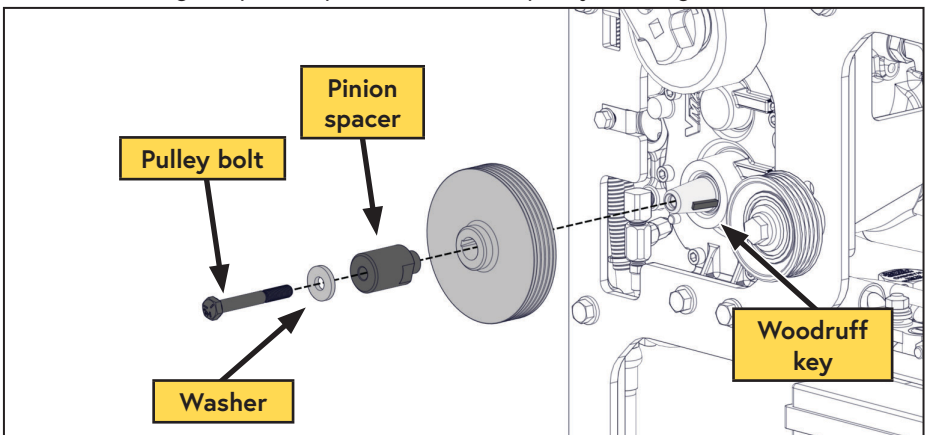

Figure 65 — Remove pulley
- ☐ While holding the pinion spacer, remove the pulley bolt (Figure 65).